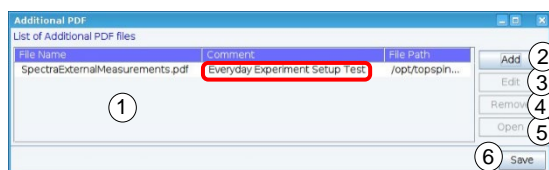

Figure 5-75: Results tab – Additional PDF dialog
In the subsequent Additional PDF dialog the PDF files to be included are shown in **List of Additional PDF files** (Figure 5-75 (1)). Click **Add** (Figure 5-75 (2)) to open a file browser and to select a PDF file from hard disk. The file is added to the list. Click the **Comment** cell of a file entry in the list to enter a comment if required. Select a file list entry and click **Edit** (Figure 5-75 (3)) to edit an Additional PDF entry. Select a file list entry and click **Remove** (Figure 5-75 (4)) to remove an Additional PDF file. Select a file list entry and click **Open** (Figure 5-75 (5)) to open an Additional PDF file with a PDF viewer. Click **Save** (Figure 5-75 (6)) to apply all changes and close Additional PDF dialog.